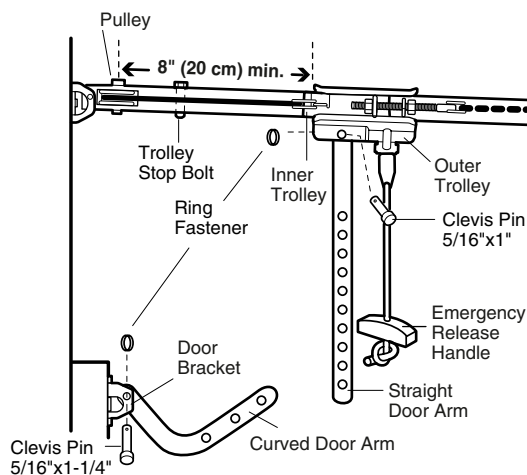

Figure 1
- Make sure garage door is fully closed. Pull the emergency release handle to disconnect the outer trolley from the inner trolley. Slide the outer trolley back (away from the pulley) about 8" (20 cm) as shown in Figures 1, 2 and 3.
- **Figure 1:**